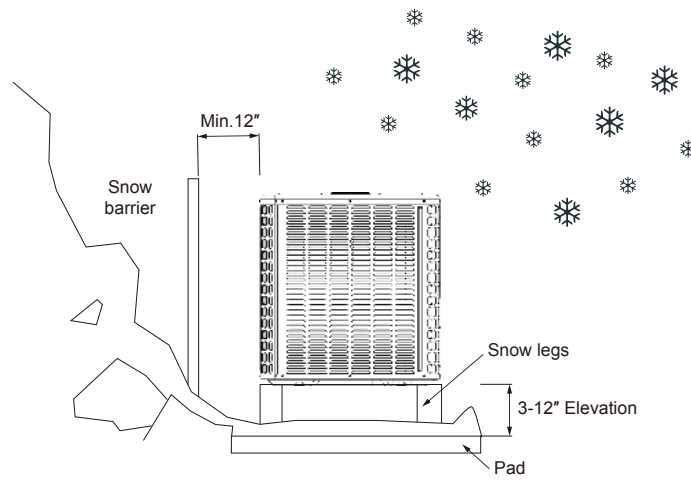

Figure 2-5
- Units should be elevated 3-12 inches above the pad or rooftop, depending on local weather. This additional height will allow drainage of snow and ice melted during defrost cycle prior to its refreezing. Ensure that drain holes in unit base pan are not obstructed, preventing drainage of defrost water (Fig. 2-5).